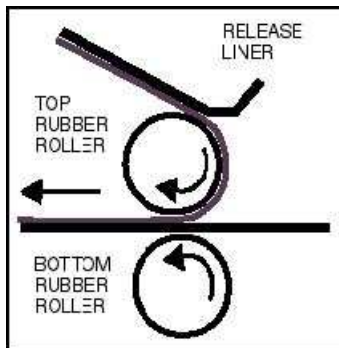

FIGURE 1
4. Drape the remaining sheeting over the top roll and peel back the remaining portion of the release liner, while feeding in the remainder of the sign blank (See Fig. 1).